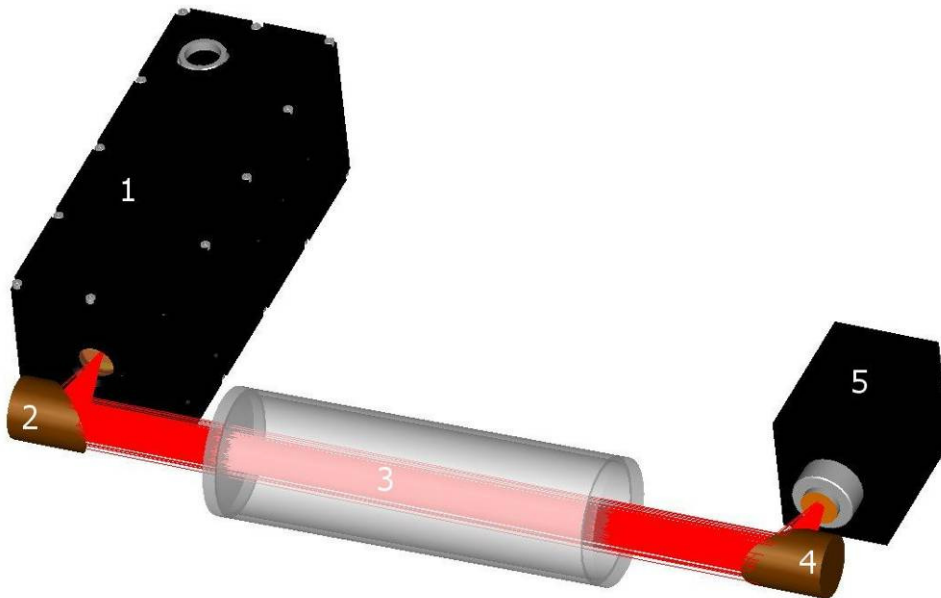

Figure 9: Basic setup
For a basic setup a light source (1) and a detector (5) is absolutely necessary independent of which mode is used. An example of a basic setup is shown in Figure 9. Off- axis- parabolic mirrors (2, 4) are used to couple the beam. To get a much more compact setup a lens can be used instead of the OAP. A reference gas cell (3) is placed in the middle of the optical path between the OAPs.